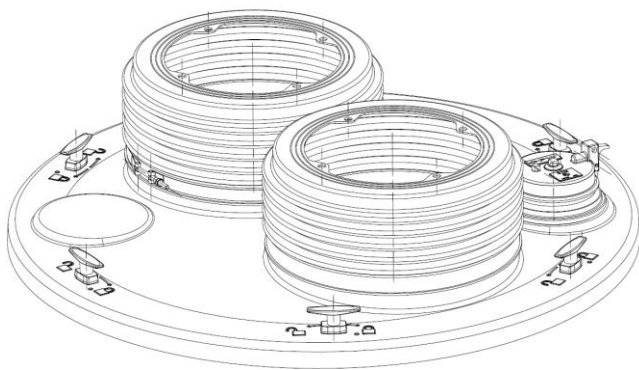

**Figure 36**
- 59. Using the 1-3100—TOOL (61SA-TOOL for P7XX or P5XX), tighten the spill container(s) onto the riser(s) with a minimum torque of 125 ft.-lbs. and a maximum torque of 250 ft.-lbs. See Figure 36.